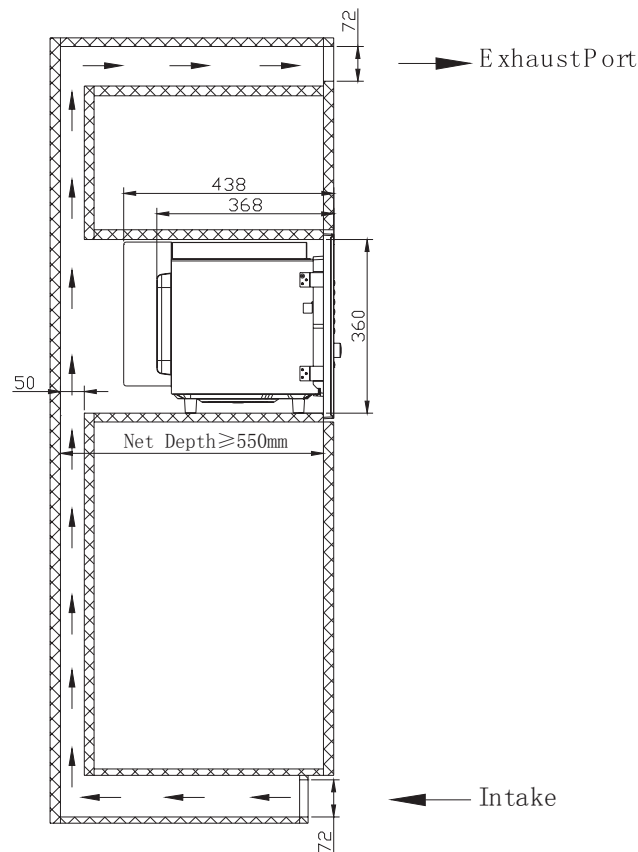

Fig.6
f)Cabinet airflow chart as shown in Fig.6.